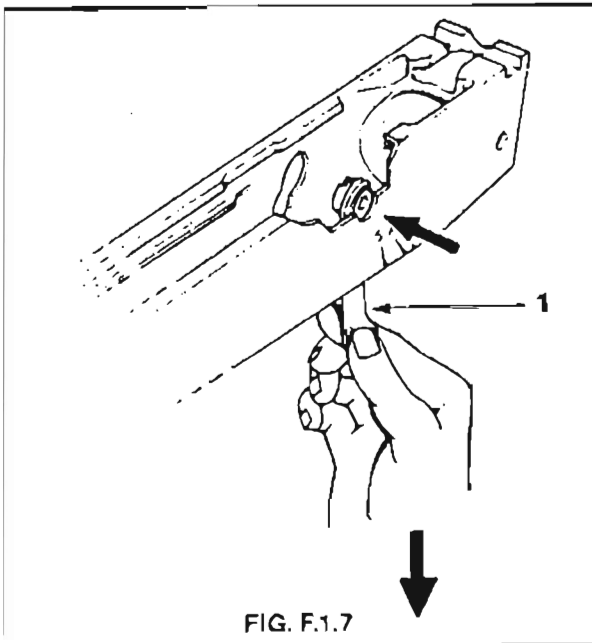

FIG. F.1.7
5. Remove the Left Hand change lever from its axis hole in the side of the receiver and withdraw the lever through the hole in the bottom of the receiver. See Fig. F.1.7.